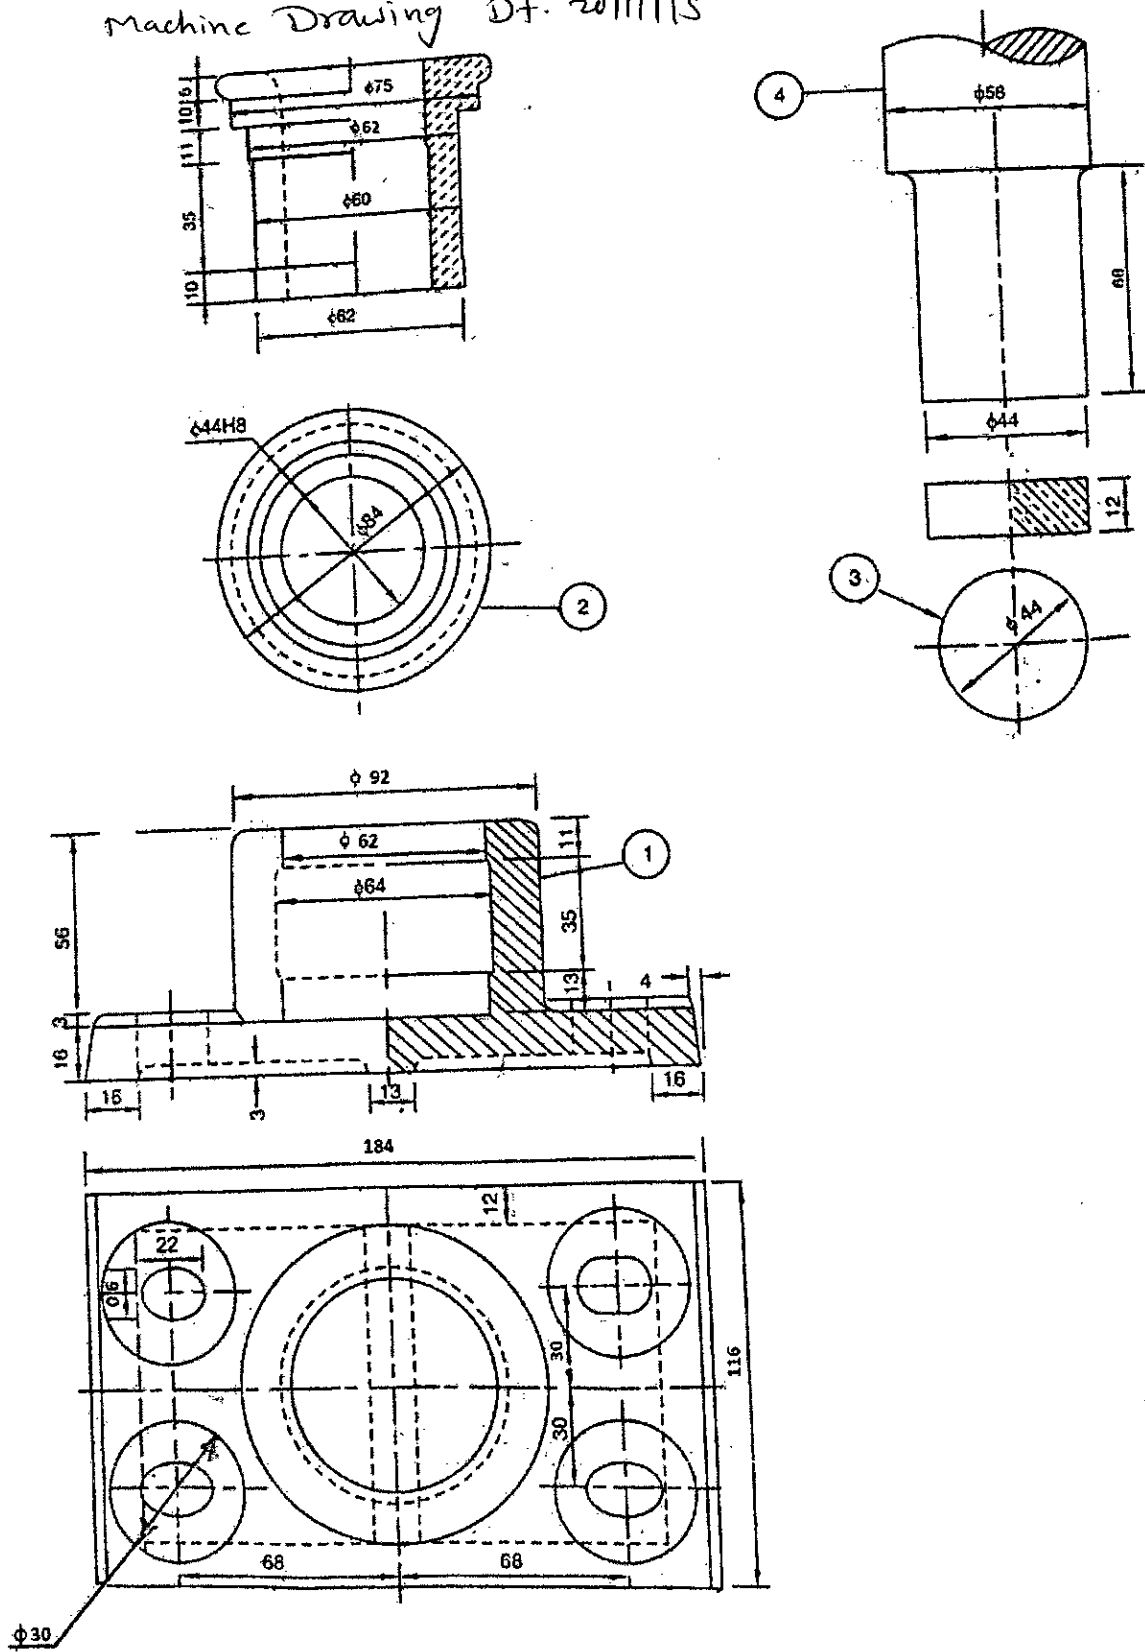

Fig. 3 Foot Step Bearing Details
Q. 4 (a)	Fig. 3. shows the details of Foot Step bearing. Imagine the parts assembled together and draw the following views with appropriate scale.